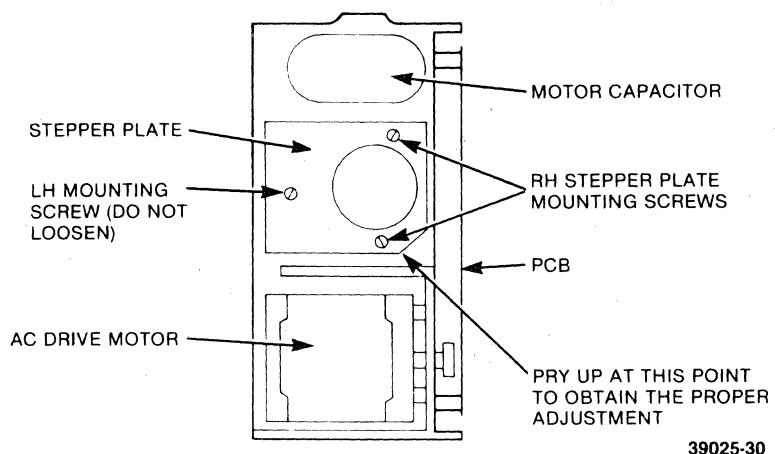

FIGURE 5-14. DRIVE REAR VIEW
- g. Slightly loosen two right hand stepper plate mounting screws only (see figure 5-14). Do not loosen left hand screw as this will effect head penetration adjustment.